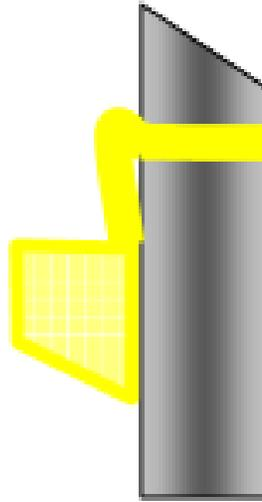

Figure 1
- a) Install the retaining collar first (see figure 1). Slip the collar onto the pipe as shown and slide the collar down the pipe 1 to 2 inches.